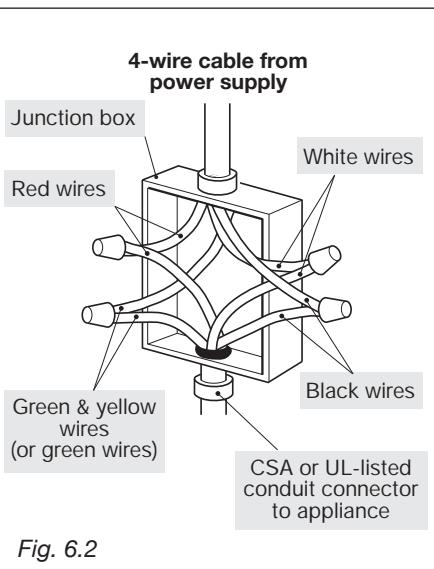

Fig. 6.2
7. Connect white oven cable wire to neutral (white) wire in junction box (Fig. 6.2).